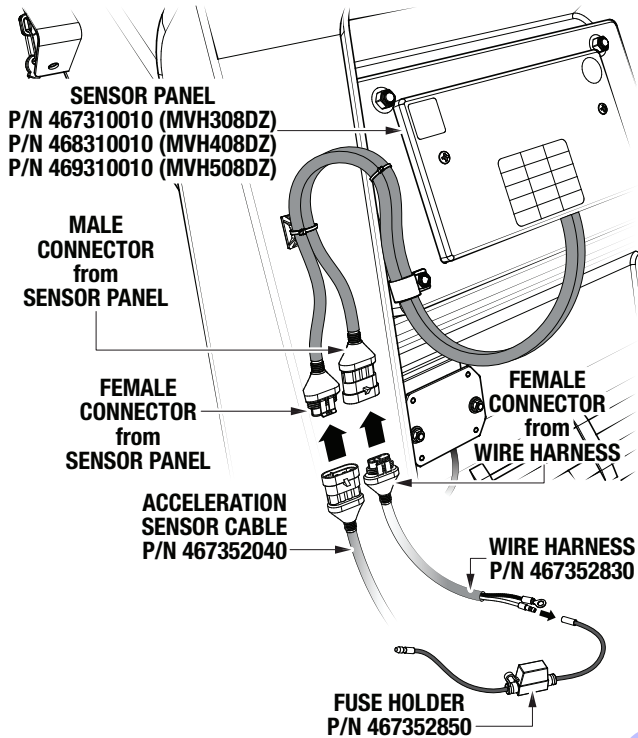

Figure 12. Sensor Cable Connections
1. Route the acceleration sensor cable (P/N 467352040) through the inside of the plate compactor up toward the sensor panel (P/N 467310010 [MVH308DZ], P/N 468310010 [MVH408DZ], or P/N 469310010 [MVH508DZ]). See Figure 12.
2. Connect the free end of the acceleration sensor cable (P/N 467352040) to the female connector extending from the sensor panel. See Figure 12.
3. Connect the male connector extending from the sensor panel to the female connector on the wire harness (P/N 467352830). See Figure 12.
4. Connect the male end of the wire harness (P/N 467352830) to the female end of the fuse holder (P/N 467352850). See Figure 12.